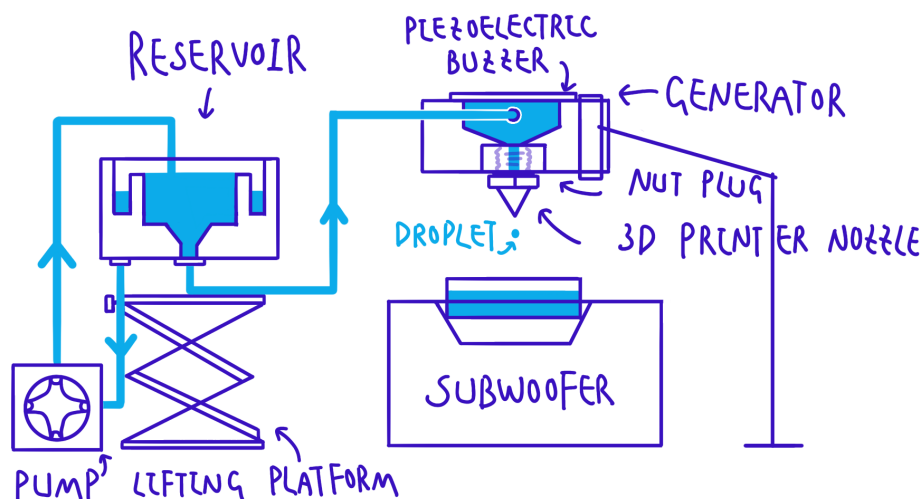

Figure 1. Schematic of droplet generator assembly
- (iv) Connect tubing as shown in Figure 1: